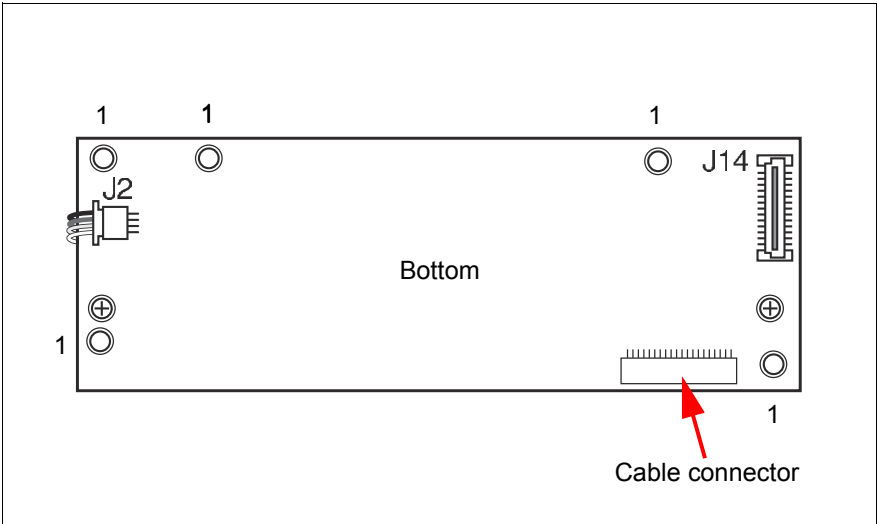
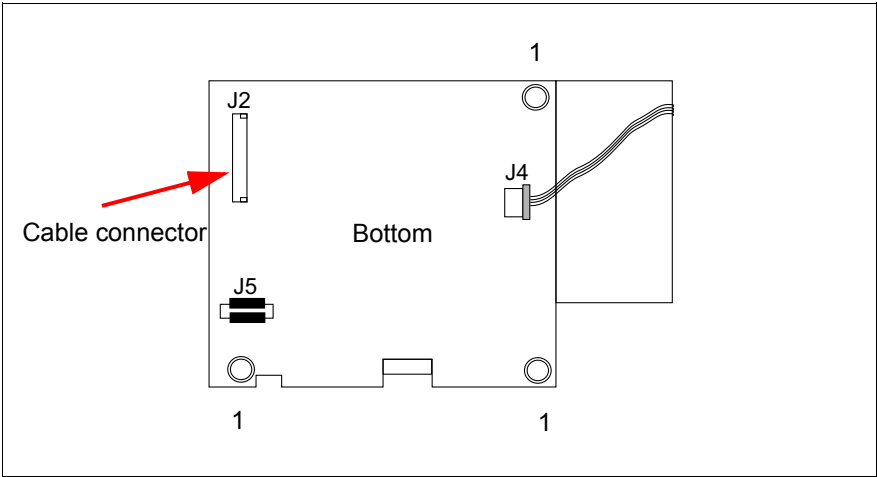

Figure 6: Position of the cable connector LSiBBU01
Figure 7: Position of the cable connector LSiBBU07
3. Insert the battery pack harness connector (at the end of the colored wires) into the J2 connector (LSliBBU01, see figure 6) or J4 connector (LSliBBU07, see figure 7) on the bottom of the iBBU.
4. Connect the cable from the cable connector (for LSiIBBU01 see figure 6 or for LSiIBBU07 see figure 7) on the iBBU to the BBU connector on the RAID controller.